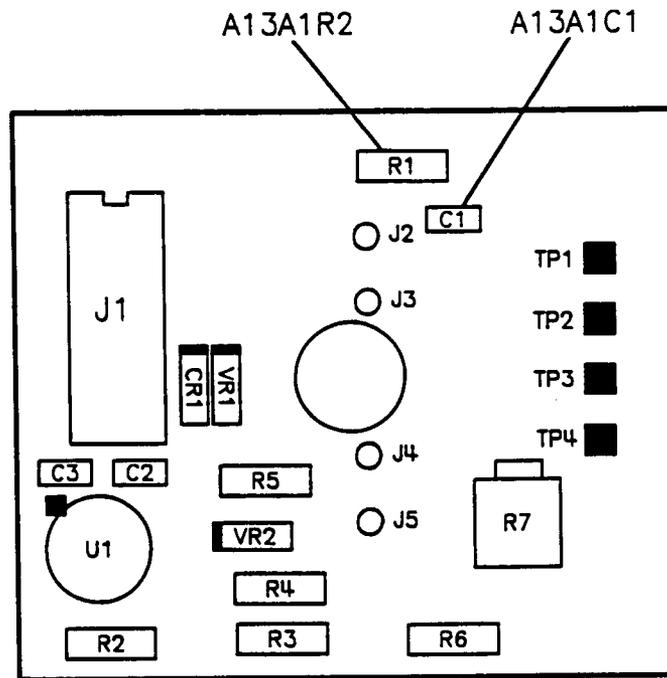

Figure 3. A13A1 SYTM Bias Assembly Component Locations
- a. Refer to Figure 3. Locate and remove A13A1R1 and A13A1C1.